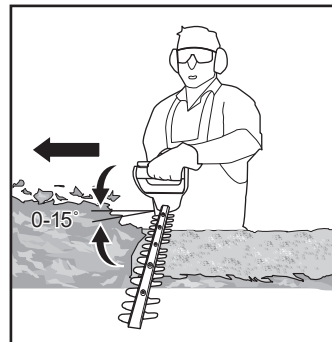

Fig. 8
7. After cutting the sides proceed to the top. Try to keep the cutting device angled at approximately 15° to the cutting surface (Fig. 8).